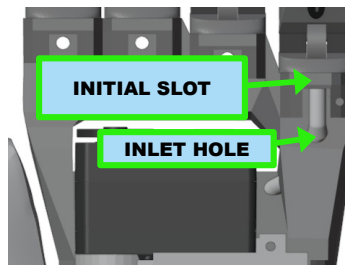

Figure 5.39 : Inserting the tube into the initial slot (front view)
1. Insert one end of the PTFE tube into the initial slot (on the rear of the skeleton) of the extension tendon (figure 5.39).